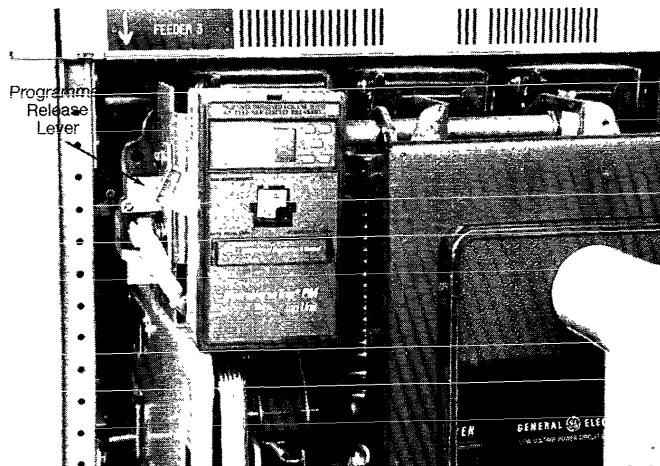

Figure 1. Removing a MicroVersaTrip Plus or MicroVersaTrip Pivi Trip Unit.
3. On the left or right side of the trip unit, pull the **PROGRAMMER RELEASE LEVER** out from the trip unit and lift the trip unit out, as shown in Figure 1.